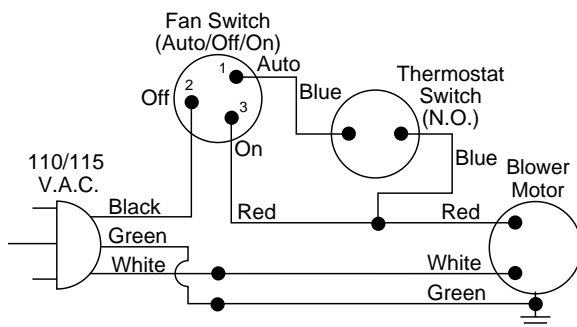

Figure 19 - Wiring Diagram For Fan Accessory Built-In Installation
4. A licensed electrician must follow the wiring diagram in Figure 19, page 12 to connect incoming electrical supply to fan kit wiring harness.